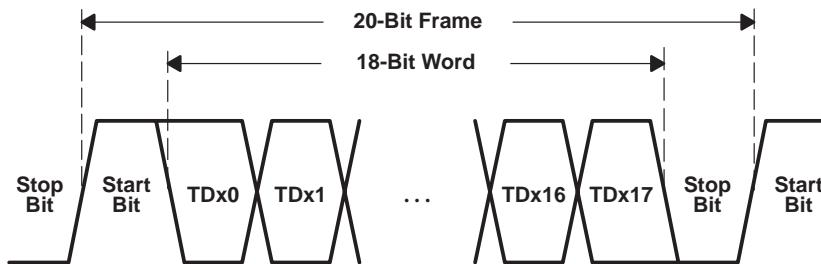

Figure 3. Serial Output Data Stream With Start and Stop Bit
All true serial interfaces require a method of encoding to ensure minimum transition density so that the receiving PLL has a minimal number of transitions in which to stay locked onto the data stream. The signal encoding also provides a mechanism for the receiver to identify the word boundary for correct deserialization. The TLK4250 transceiver wraps a start bit (1) and a stop bit (0) around the 18-bit data payload as shown in Figure 3. This is transparent to the user, as the transceiver internally adds the framing bits to the data such that the user reads and writes actual 18-bit data.
The parallel-to-serial shift register takes in the 20-bit-wide frame multiplexed from the framing logic and converts it to a serial stream. The shift register is clocked on both the rising and falling edges of the internally generated bit clock, which is 10 times the **GTx_CLK** input frequency. The LSB (**TDx0**) is first out after the start bit as shown in Figure 3.